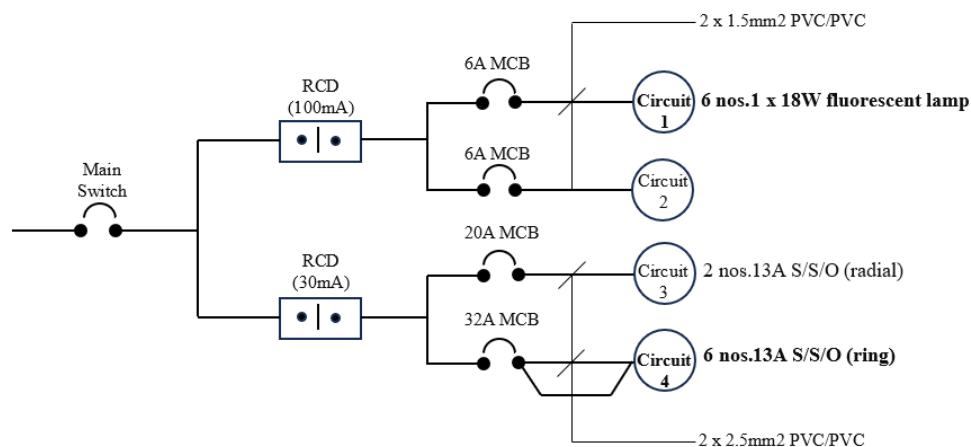

Figure B2(c) / Rajah B2(c)
- CLO1 (c) Figure B2(c) shows the single phase electrical wiring schematic diagram connected to the final circuits. As an electrical contractor, explain:
- i. any **TWO (2)** of the electrical accessories used in the wiring system.